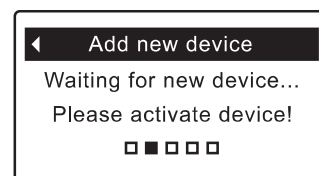

FIG. 47
8. Press the remote’s SELECT (O) button, and the “Waiting for new device...” screen appears (See Figure 47). The remote waits two minutes for the conditioner/refiner to be activated (in the next step).
3. Press the SELECT (O) button, and the screen shown in Figure 47 appears. The remote waits two minutes for the device to be activated (following the instructions in that device's manual). For complete instructions on adding the conditioner/refiner, refer to "Connecting to Remote" on Page 19 of this manual.